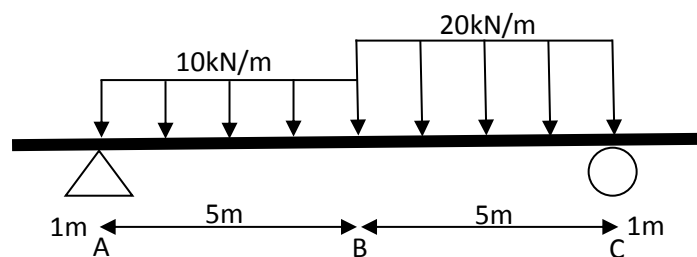

Figure B1a/ Rajah B1a
(a) Based on overhanging beam shown in **Figure B1a**,
- (b) Based on **Figure B1a**, calculate the Shear Force and Bending Moment values at point A, B and C.